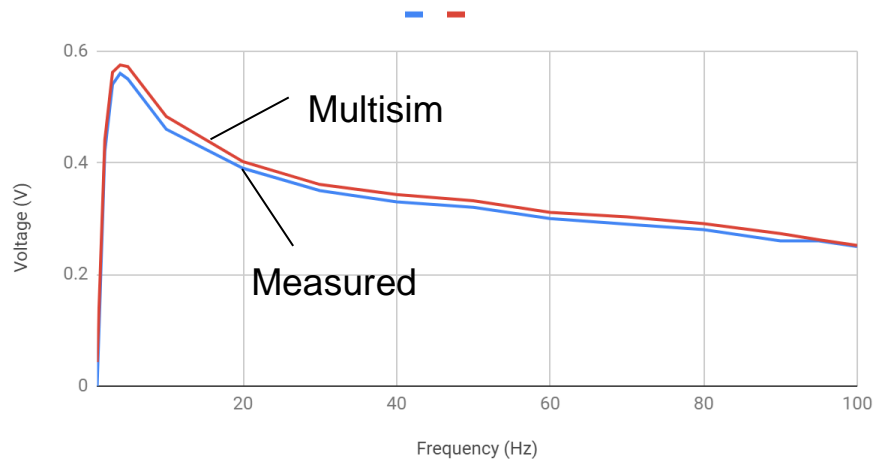

Figure 1-3
6. Use the data that you collected to create bode plots for each LED. The bode plots should appear similar to ones shown in Figures 1-3, 1-4, and 1-5.